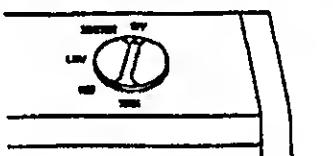

Figure 18 - Control Knob
3. Push in control knob slightly and turn clockwise  $\curvearrowright$  to the OFF position. (see Figure 18).
5. Push in and turn control knob counterclockwise  $\curvearrowleft$  to PILOT position. Press in control knob for five (5) seconds.